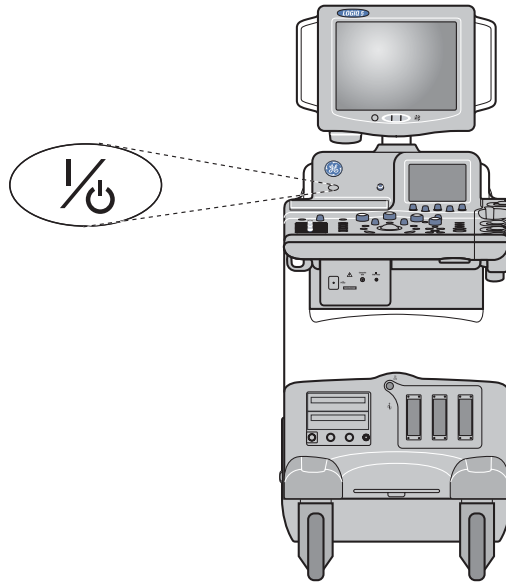

Figure 3-14 Power On/Off Standby Switch Location
- 1.) Press the **ON/OFF** key at the front of the System for about two (2) seconds. Refer to Figure 3-14 on page 3-12 .